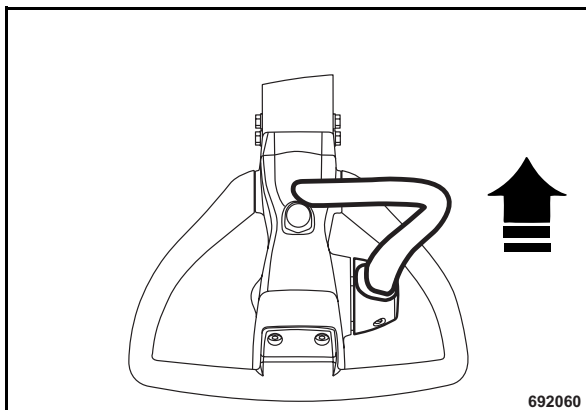

Fig. 71
- Shift the travel lever forward against the stop (Fig. 71).